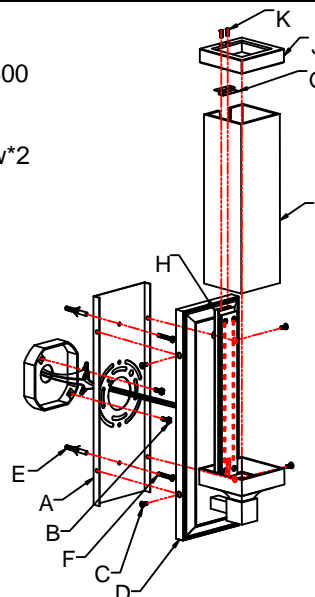

Fig. 2
### CONNECTING THE WIRES (Fig. 2)
6. At this point, connect the electrical wires as shown in Fig. 2, making sure that all wire connectors are secured. If your outlet box has a ground wire (green or bare copper), connect the fixture's ground wire to it. Otherwise, connect the fixture's ground wire directly to the mounting plate using the green screw provided. After the wires are connected, tuck them carefully inside the junction box.